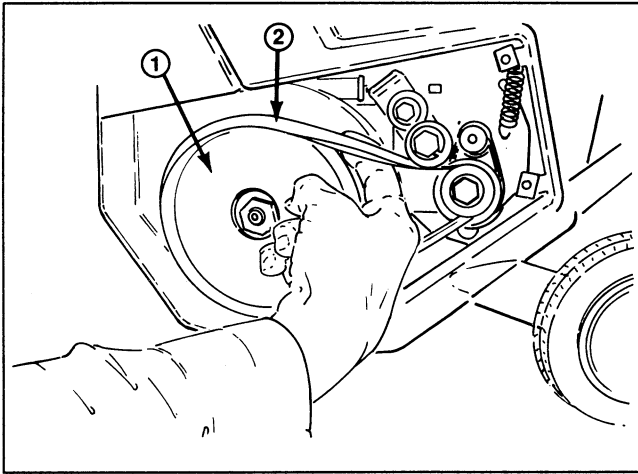

Figure 16
3. Rotate rotor with left hand while walking (sliding) belt off large pulley with right hand (Fig. 16).
2. Remove large belt by slowly walking (sliding) it off small pulley (Fig. 16). Refer to steps 2–3 in Large Belt Replacement section.